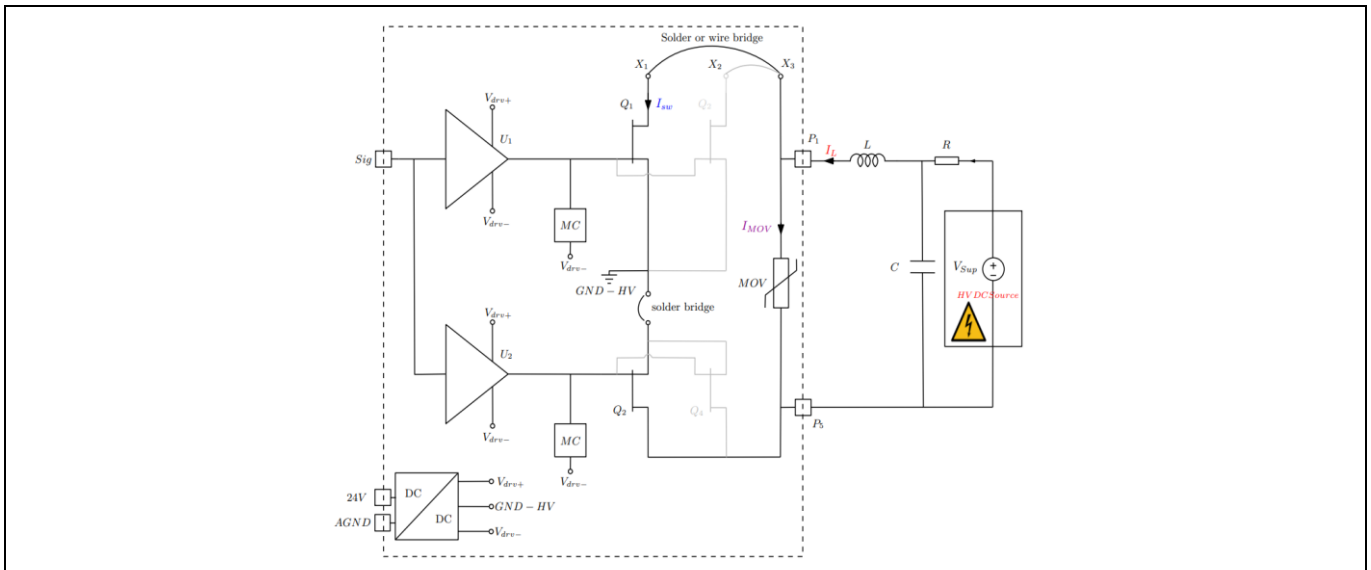

Figure 7 Pulse inductive clamping setup (simplified)
A fundamental feature of a solid-state circuit breaker is its ability to turn off high currents within a very short time, even when operating in an inductive circuit. This section explains how to use the evaluation board under such harsh conditions. Before starting with the single-pulse inductive clamping basic operation, follow the steps listed in Table 4 to configure the baseboard and set up the connections as shown in Figure 7.
2. Prepare test setup as shown in Figure 7